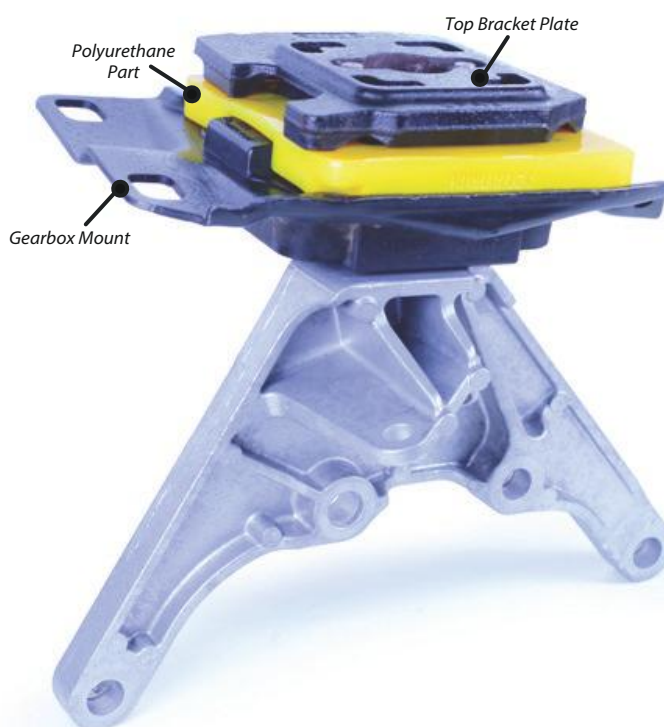

Figure 1 - fitted image of the polyurethane part inside the gearbox mount
2. Access the gearbox mount and remove the top bracket plate (Figure 1) and clean any dirt and corrosion off the mount.